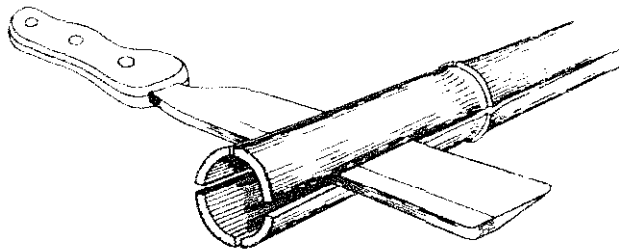

FIGURE 2
- o **Use** a splitting knife with a short handle and broad blade to make four cuts, at equal distances from **each** other, in the upper end of the **culm** (Figure 2).